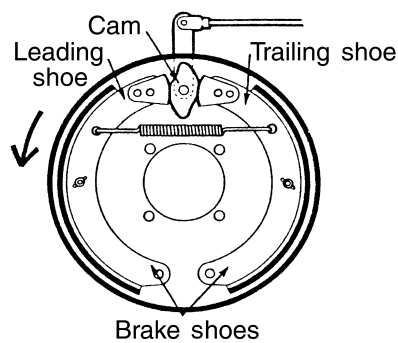
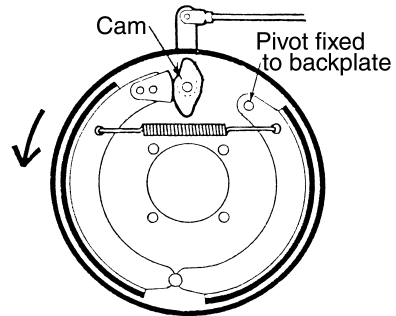

FIG. 2
FIG. 3
- (ii) The braking system shown in Figure 3 improved the maintenance and performance characteristics of the braking system shown in Figure 2. Describe ONE performance improvement and ONE maintenance improvement resulting from the design changes.